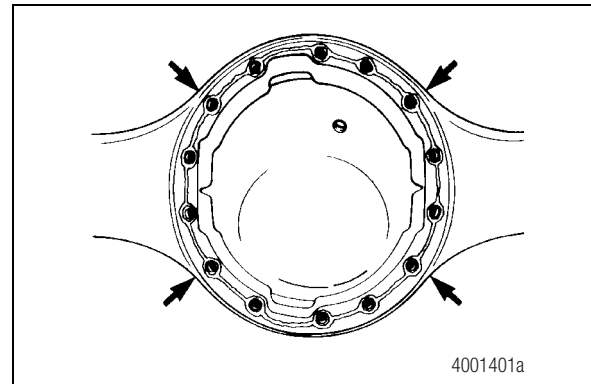

Figure 5.2
5. Install the nuts or capscrews and washers into the four corner locations around the carrier and the axle housing. Hand-tighten the fasteners. Figure 5.2.
6. Carefully push the carrier into position. Tighten the four fasteners two or three turns each in a crisscross pattern. Figure 5.2.